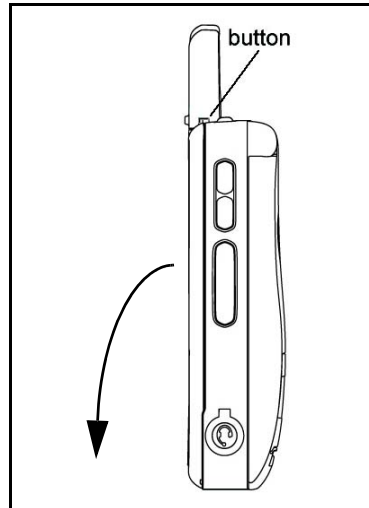

Figure 7-2.
1. Place thumb or fingernail against release button (see Figure 7-2).